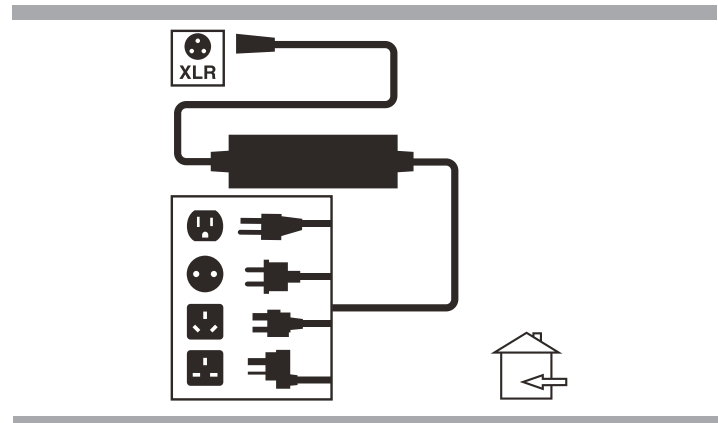

Figure 8. Battery Charger
3. Plug the off-board charger into the off-board charger/programming socket on the controller. See figure 8.